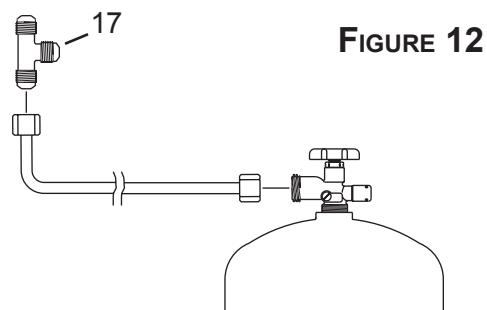

FIGURE 12
Attach the regulator and hose assembly to the brass "tee" (17). Reconnect the assembly to the cylinder. Use two adjustable wrenches to hold and tighten the joint between the hose and "tee". FIGURE 12.